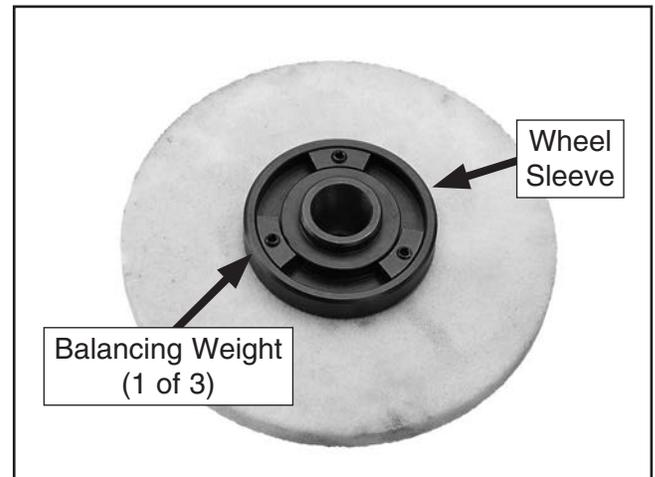

Figure 31. Weights evenly distributed around wheel sleeve groove.
5. Loosen balancing weight set screws, position weights evenly around wheel sleeve groove, then retighten set screws (see **Figure 31**).